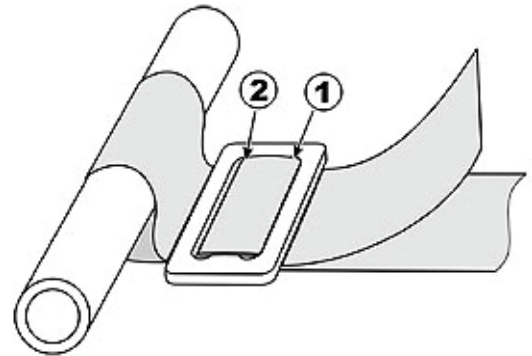

Figure 3
6. wrap webbing back through slot 2 and 1 (Figure 3).